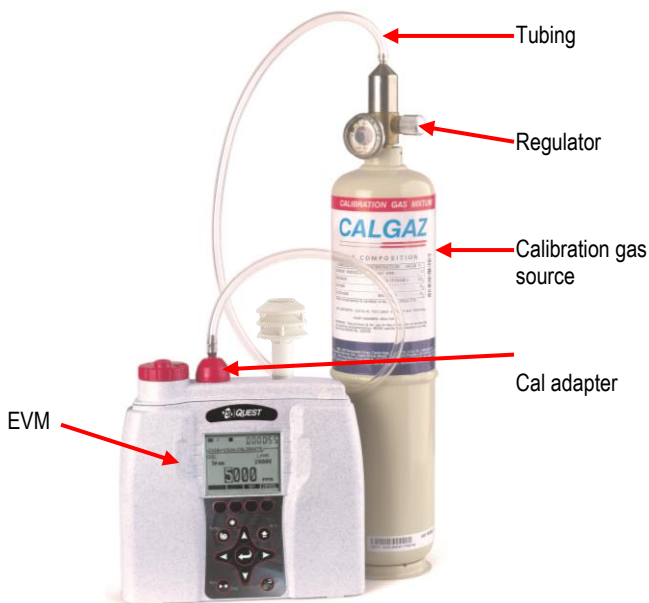

Figure 4-17: Applying a gas sensor
1. Continuing from the zero cal procedures, you should be viewing the **Cal/Pause** screen (as displayed in Figure 4-17). Press the **Span** soft key.